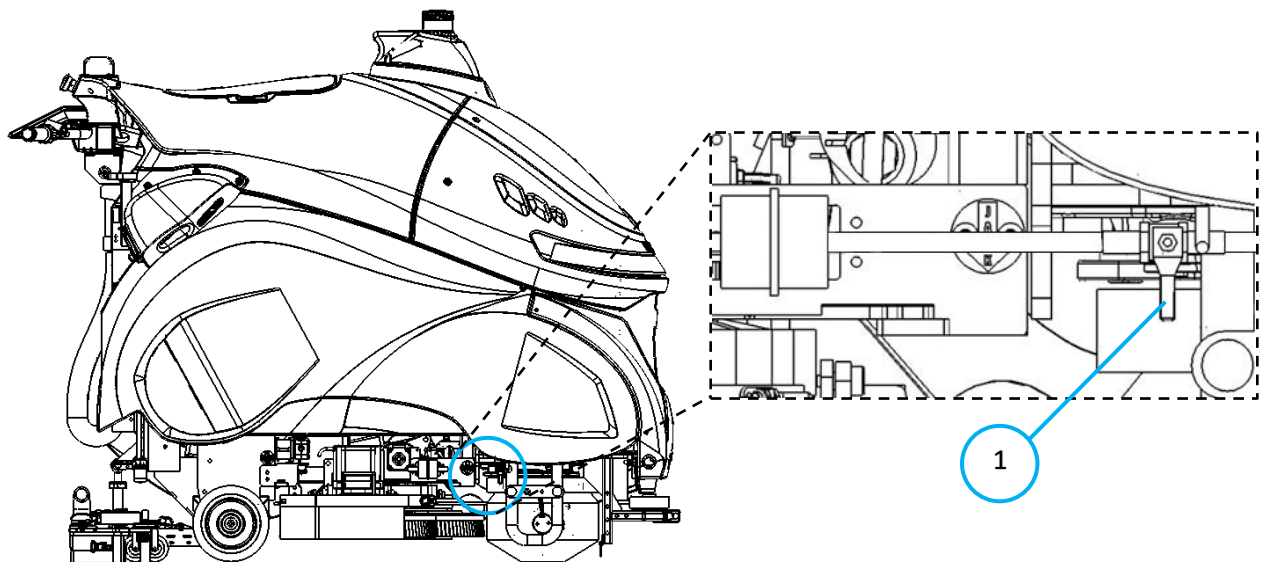

Fig. 2
4. Unplug hose from the water filter (Fig 2 – 1).